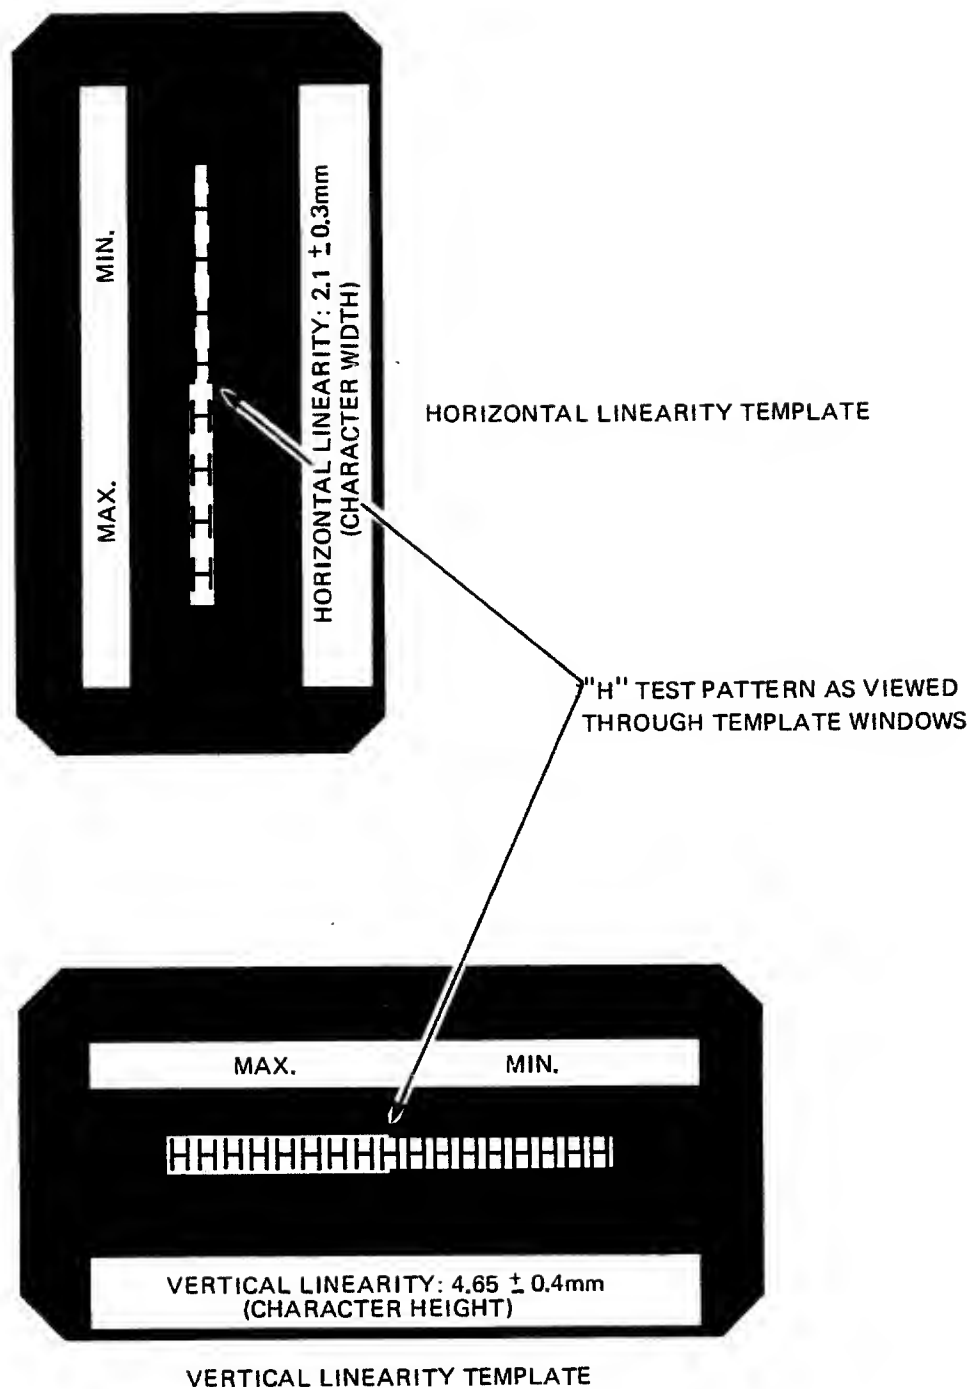

Figure 3-1b. QVT Alignment Tools Set
- . Vertical Template (refer to Figure 3-1b, Q.P.N. 84841-02),
- . Horizontal Template (refer to Figure 3-1b, Q.P.N. 84841-03),